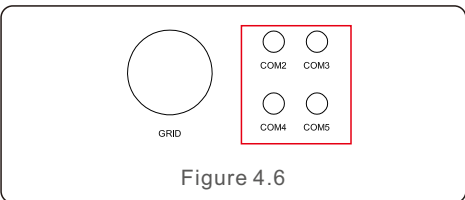

Figure 4.6
- Remove the cap nut from the waterproof cable glands labeled at the bottom of the inverter. Remove the plug from the fitting. (in Figure 4.6).